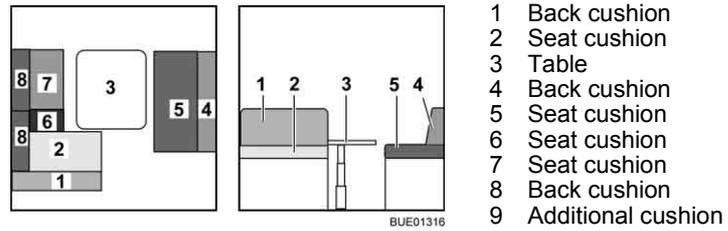

Fig. 146 Prior to conversion
- Convert the table (Fig. 146,3) to a bed foundation (see section 6.11).
- Remove the back cushions (Fig. 146,1, 4 and 8) and lay them aside.